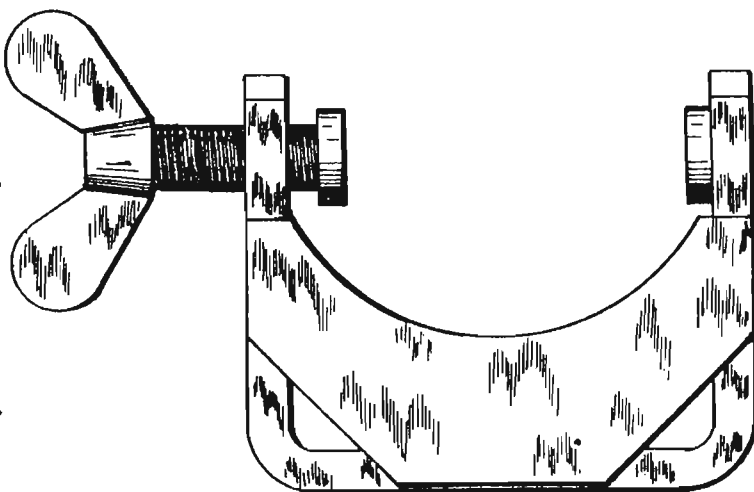

Fig. 3. - 1964.T.
Fig. 3 Shows ball pin extractor for track rod end 1964.T. again there are alternatives, i.e. a sharp blow either side of the joint with two hammers will sometimes break the taper. It may be possible to obtain an extractor to the same spec. as 1964.T. from a motor factors such as Brown Bros.
- 3) Undo nut on track rod end and brake joint using ball extractor 1964.T., see Fig. 3.